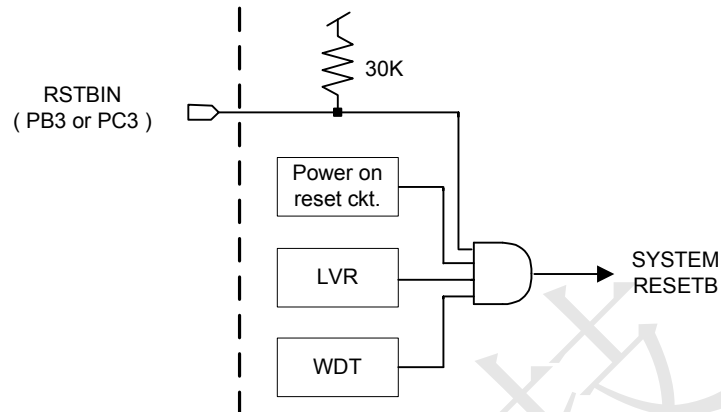

Figure 10.1 Reset system block diagram
CST1604A(C) reset is come from four signals which are power on reset, low voltage reset(LVR), external IO PB3 or PC3 pin (by option) and WDT overflow reset, as shown in Figure 10.1. A dedicated external resetb input pin (by option) is provided to reset this chip, which has 30K ohm pull up resistor. The operation frequency of MCU will go back to BANK0 mode when reset occurred.